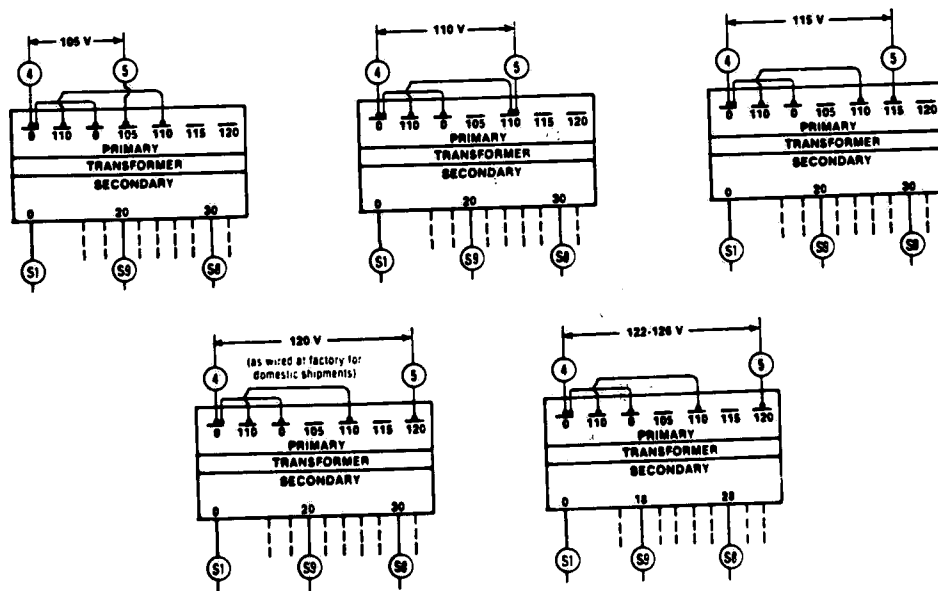

Figure 3-15. VOLTAGE TAP CONNECTIONS.
3.5.4 Check For Proper Electrical Installation, 25-Amp Variable Intensity Control (See Figures 3-15 and 3-16)
2. Measure loaded input line voltage. Input voltage is measured with the variable intensity control rotary knob in the number 5 position and all 8 lamps illuminated. Refer to Figure 3-15 and Table 3-4 to make the necessary changes in the wiring. These are the recommended primary and secondary voltage tap connections when the input line voltage is as indicated.